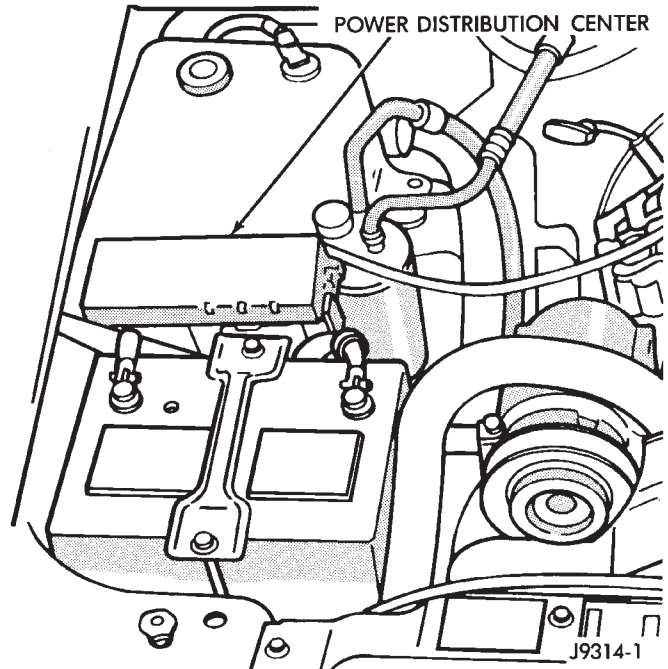

Fig. 24 Power Distribution Center (PDC)
(2) Inspect the battery cable connections. Be sure that they are clean and tight.
(3) Inspect fuel pump relay and air conditioning compressor clutch relay (if equipped). Inspect the ASD relay connections. Inspect starter motor relay connections. Inspect relays for signs of physical damage and corrosion. The relays are located in the Power Distribution Center (PDC) (Fig. 24). Refer to label on PDC cover for relay location.